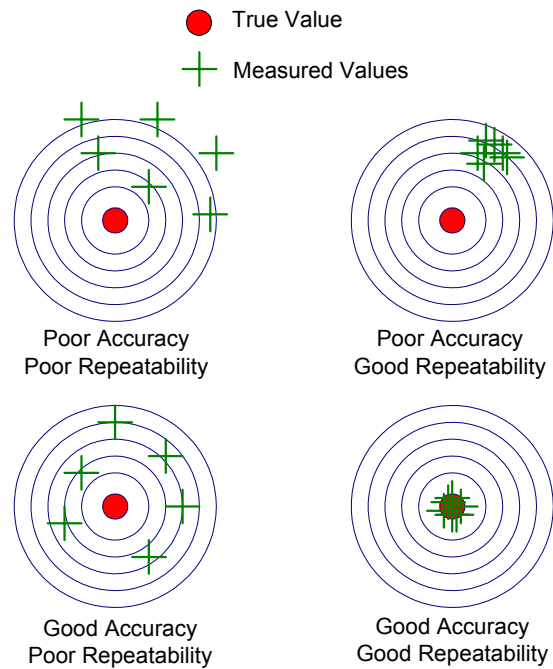

Figure 1. Accuracy is how close you are to the center (the true value) and repeatability is how close together the measurements are
- *Repeatability* says how close together repeated measurements are, or the variance of the measures (see Figure 1- next page).